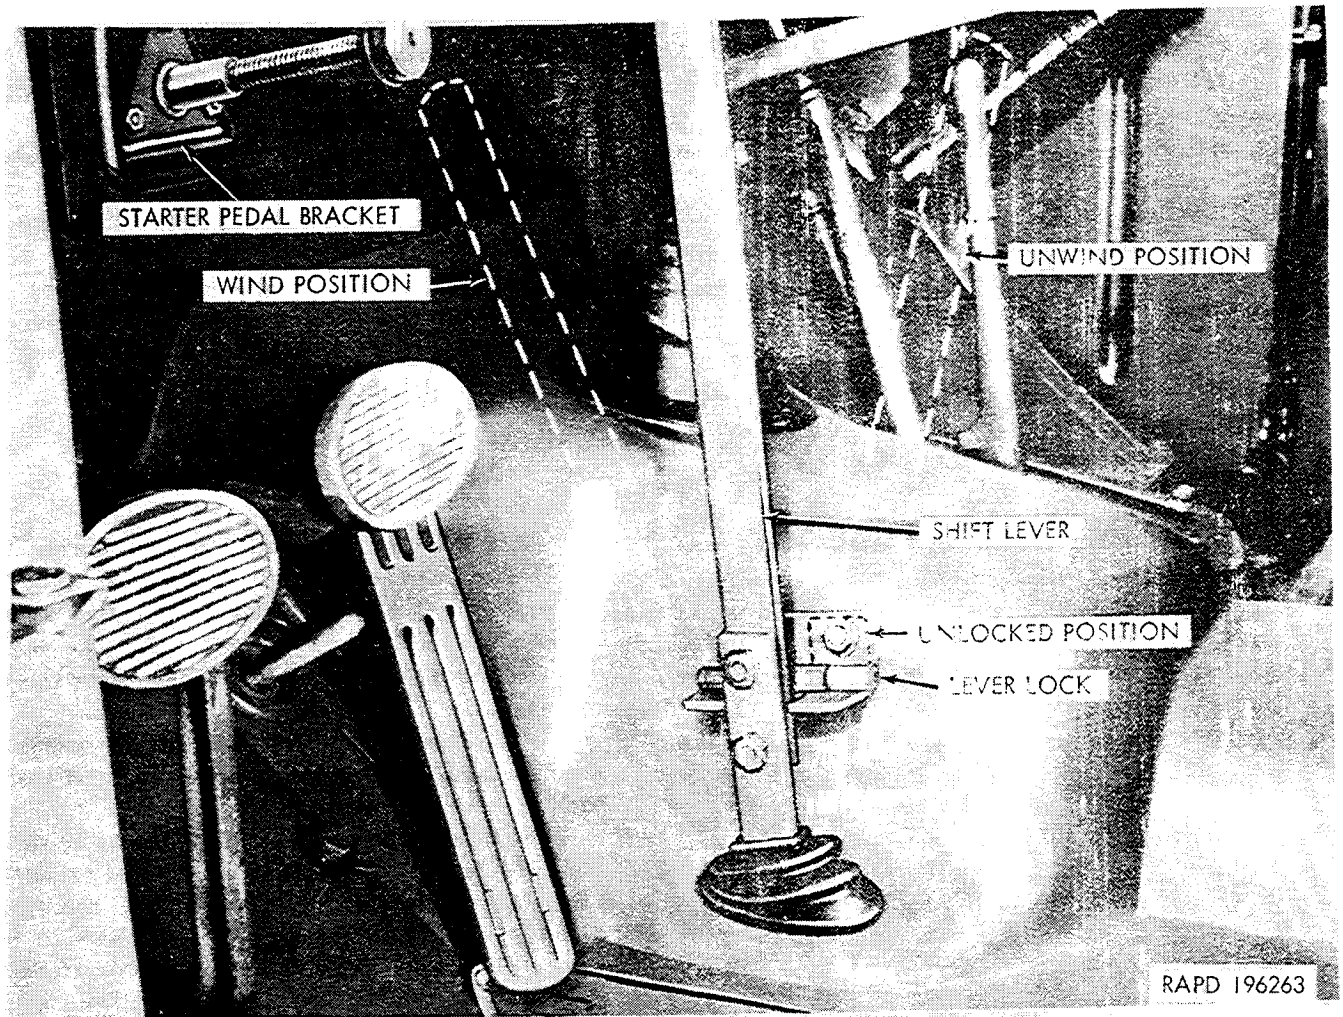

Figure 2-197. Power-takeoff shift lever positions.
(2) Place a new weatherseal and weatherseal retainer over the hand brake lever and transfer levers, and position them on the transmission access cover, aligning the screw holes. Install the four lockwasher screws and tighten.
d. Replace Winch Lever Weatherseal (on Vehicles so Equipped). Disengage the weatherseal from the opening in the transmission access cover (fig. 2-197) and remove it. Place a new weatherseal over the winch lever and fit it into the opening in the access cover.